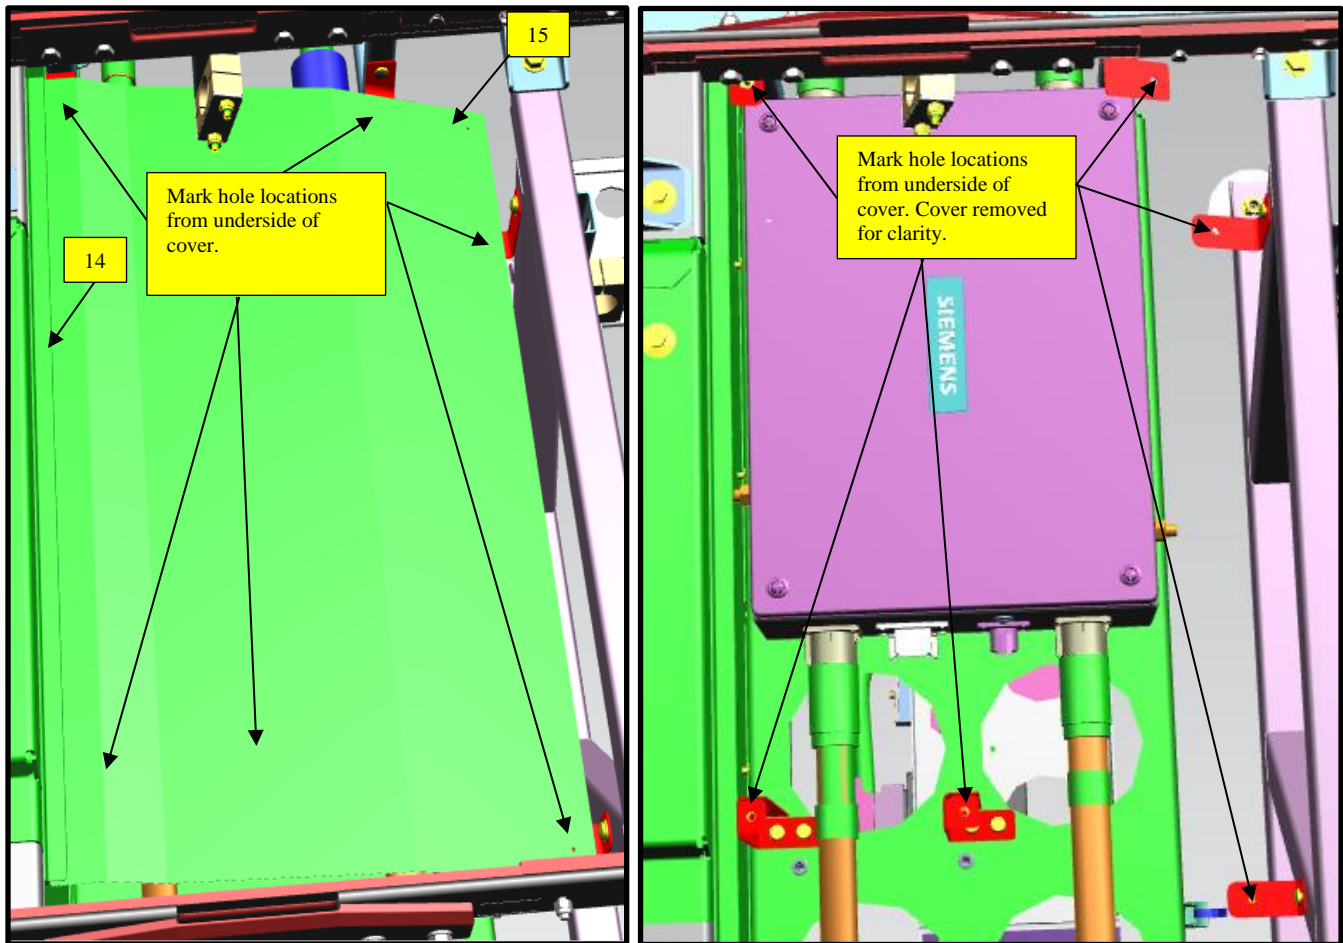

Figure 7: Forward secondary cover mounting hole location reference.
17. Apply item #14 Bulb Seal to item #15 Secondary cover along the edge that meets the ESS Unit. See Figure 7.
18. Place item #15 Secondary cover on the mounting brackets and press it against the ESS unit compressing item #14 Bulb Seal slightly and hold pressure against it while reaching under the cover marking the hole locations in the mounting brackets. See Figure 7.